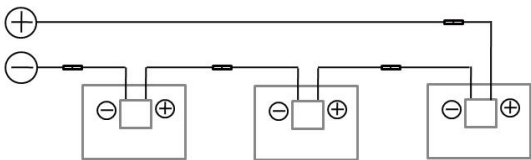
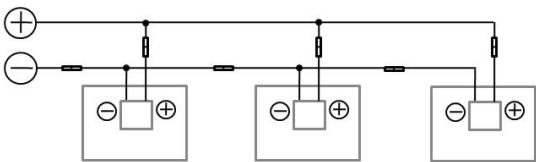
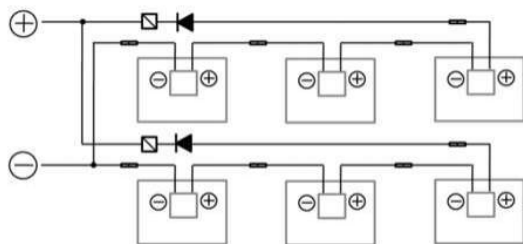

Fig. 10-1 Series Connection
Fig.10-2 Parallel Connection
Fig. 10-3 Series Connection
- ☞The Direct Current (DC) generated by the PV system can be converted to Alternating Current (AC) and connected to the public power grid. Different regions may have different policies, laws and regulations to stipulate the installation and grid-connection requirements of PV systems. Therefore, during the design, installation and grid-connection of PV system, please comply with the local policies, laws and regulations.
- ☞In order to ensure the normal running of the system, when connecting modules or loads, please ensure that the polarity of the cable connection is correct. If the modules are incorrectly connected, the bypass diodes and junction boxes may be damaged. PV modules can be connected in series (Fig. 10-1), in parallel (Fig.10-2) and in series-parallel (Fig. 10-3). The number of serial or parallel connections shall be reasonably designed according to the system configuration. Also note that if the number of parallel connections ≥ 2 , there must be an over-current protection device on each string assembly and bypass are used for over current protection.